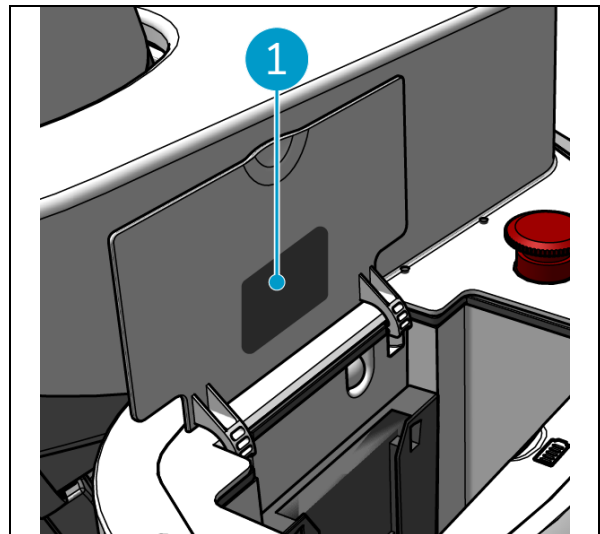

Figure 4
The serial number can be found on the inside of the battery compartment lid (Figure 4, pos. 1).